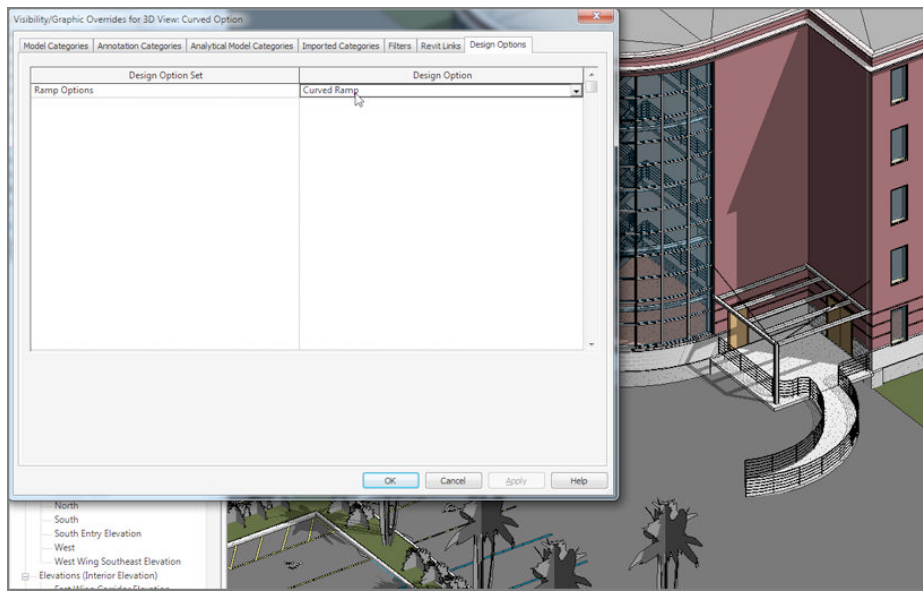

FIGURE 21.15 : Setting the view's default option
11. Change Design Option to Curved Ramp, and click OK (see Figure 21.15).